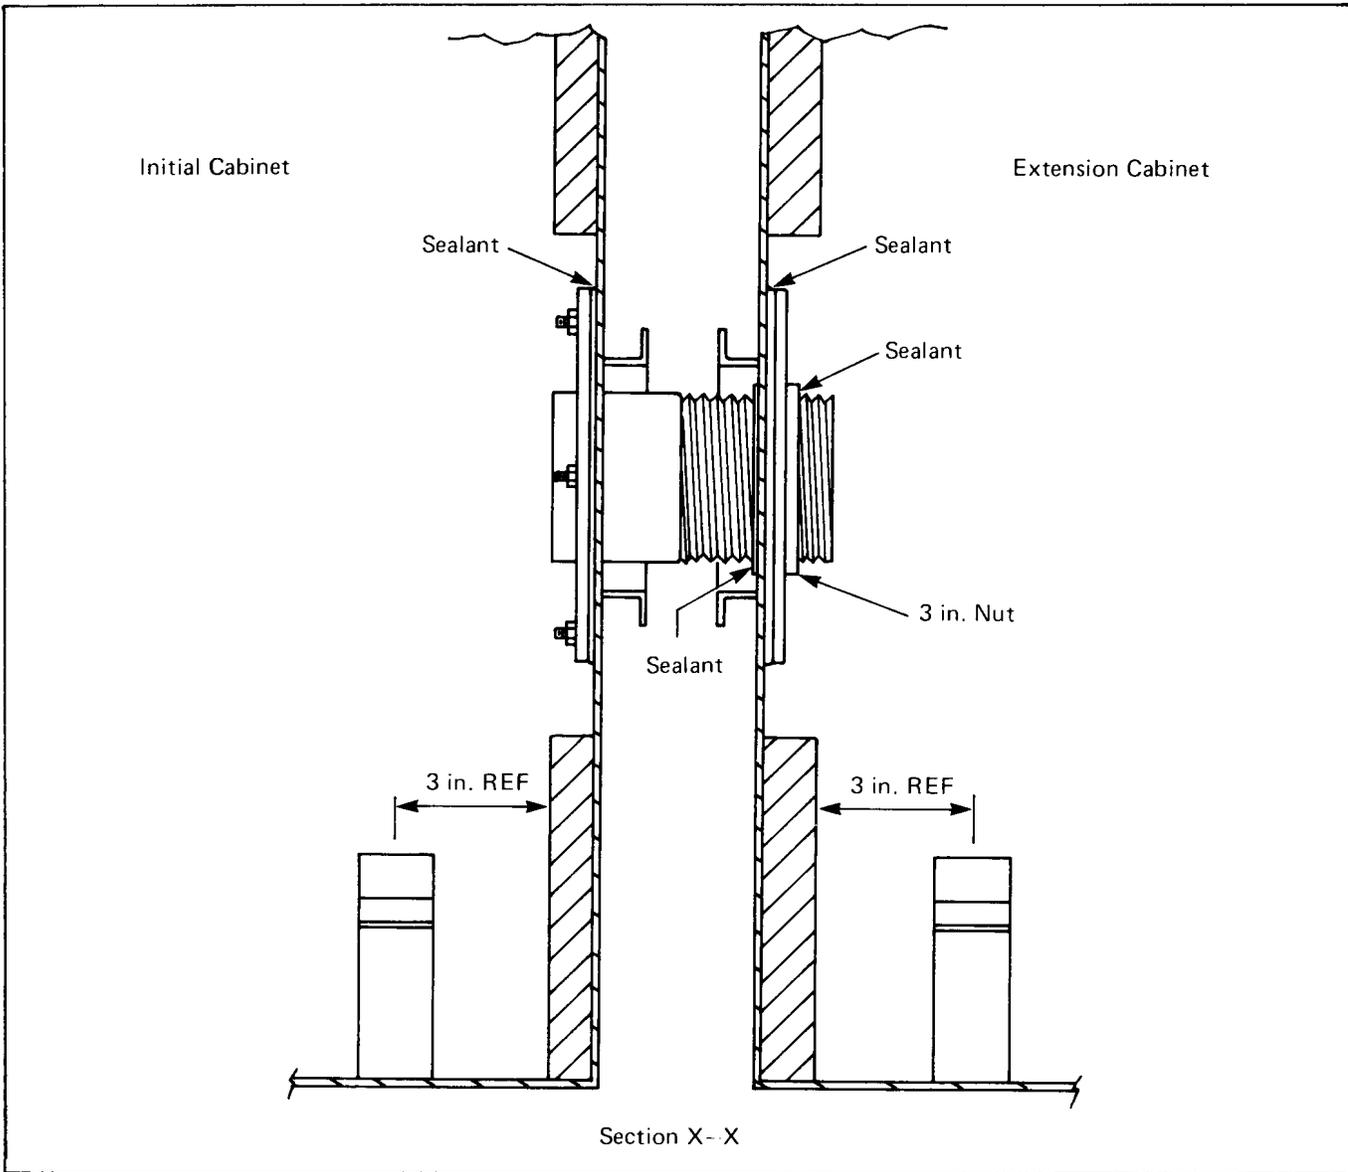

Fig. 21 - Duct Assembly
Wiring between the cabinets passes through an interconnecting duct on the rear wall (Fig. 21).
4.08 Using GE silicone adhesive sealant, apply a 1/4-inch (6-mm) bead of caulking around the duct opening on the inside wall of the initial and extension cabinets (Fig. 21).